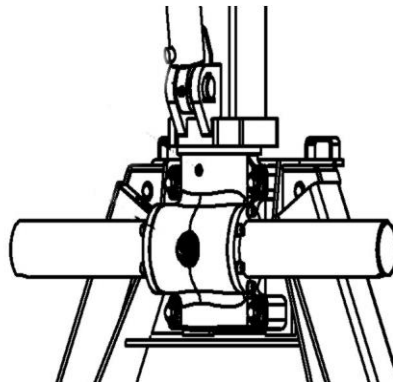

Figure 5. Connection junctions on Palms 400 A-type support legs
Mounting of forest crane should be performed at the dealer service center or by person authorized by the manufacturer or dealer. Mounting/detaching the crane can also be made by end user, if professional equipment is used, all safety regulations are followed and at least one qualified mechanic is present during all the mounting/detaching process. Strength class for mounting bolts of slewing device-support legs (pos. 1, fig.5) and support legs-trailer (pos. 2, fig. 5) has to be 12.9 (DIN912). Use self-locking nuts M24. The tightening torque for the mounting bolts of the crane (pos. 1, fig. 5) and supporting legs (pos. 2, fig. 5) is 1220 Nm.